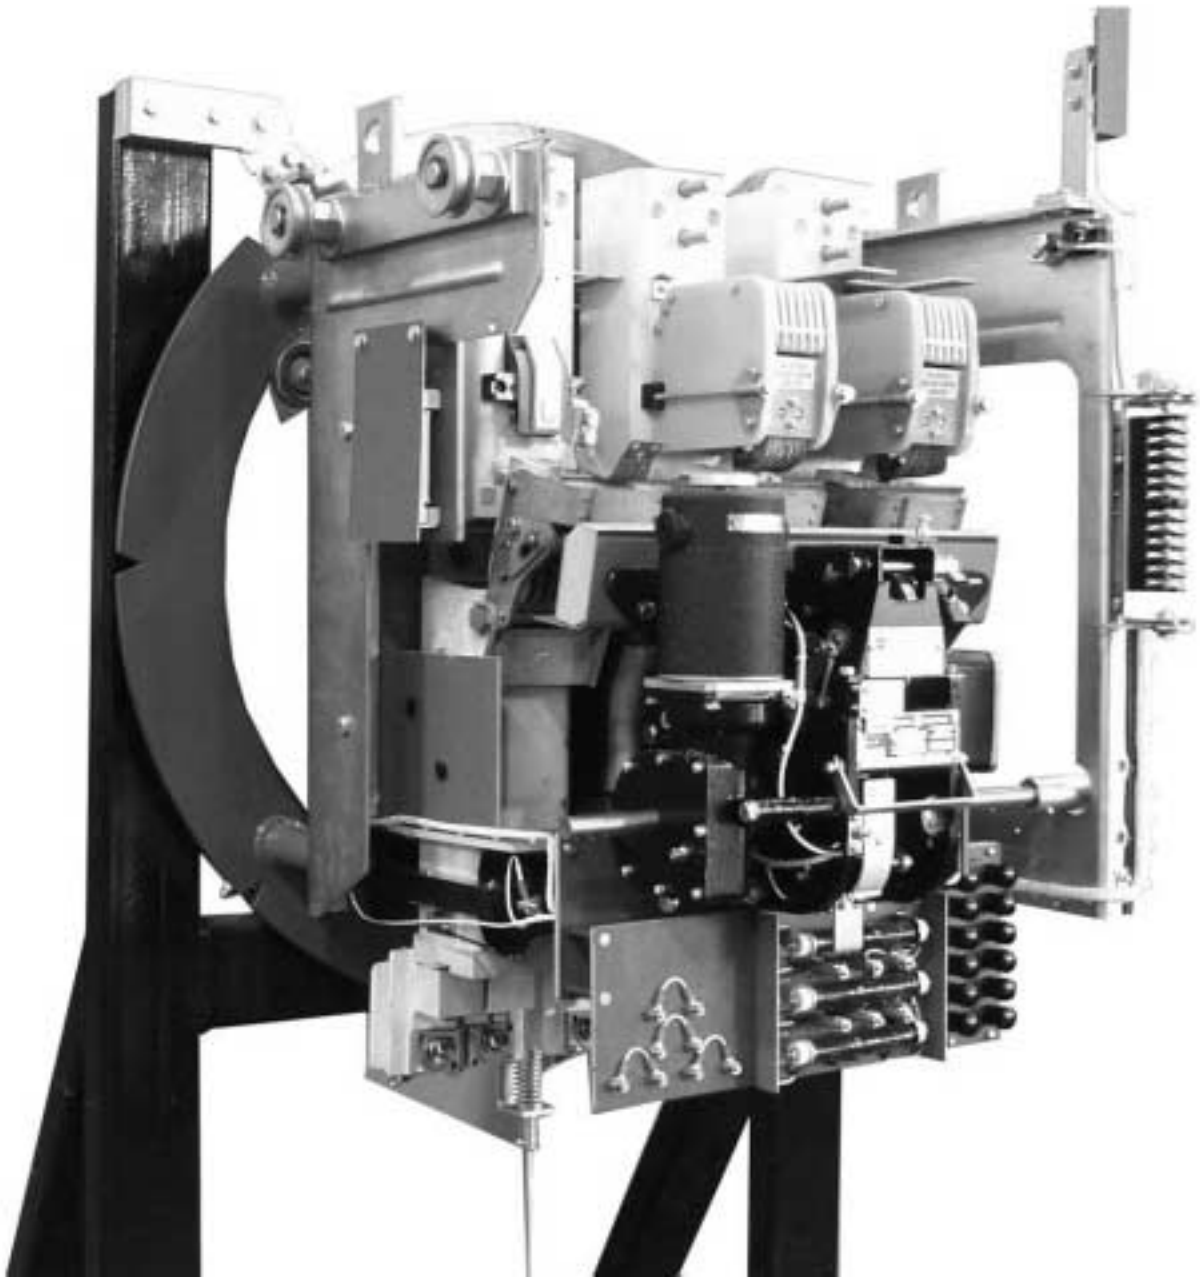

Figure 5 – Removable Unit On Network Protector Stand
Figure 5 shows a typical removable unit for the 137NP network protectors. The circuit breaker part of this unit is of the air-break type and it utilizes arc quenchers for restricting and extinguishing the arc.
A. Arc Quenchers (see Figure 5 and 6)
The mechanism for closing the breaker of the 137NP network protectors is of the gear-driven cam, motor operated type. (see Figure 5). The operating motor is mounted on the worm and gear housing to the left of the closing linkage. The motor drives the worm through a torque brake which permits free running of the motor while torque is being transmitted from the motor to the worm, and serves to stop the motor’s rotation immediately when the motor is de-energized. The brake assembly serves as a coupling between the motor and worm shaft and is mounted on the lower end of the motor shaft in the upper part of the gear housing.